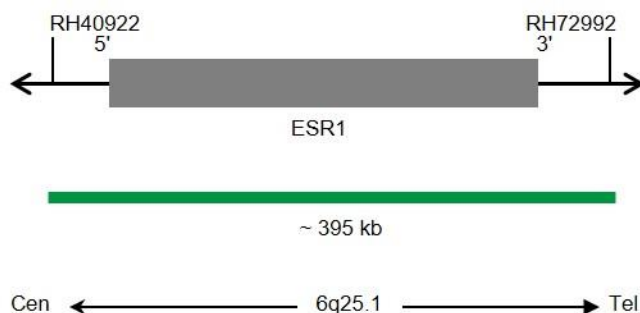

Fig. 1: SPEC ESR1 Probe map (not to scale)
- ZyGreen (excitation 503 nm/emission 528 nm) labeled polynucleotides (10 ng/ μ l), which target sequences mapping in 6q25.1* (chr6:152,083,365-152,478,947) harboring the ESR1 gene region (see Fig. 1).